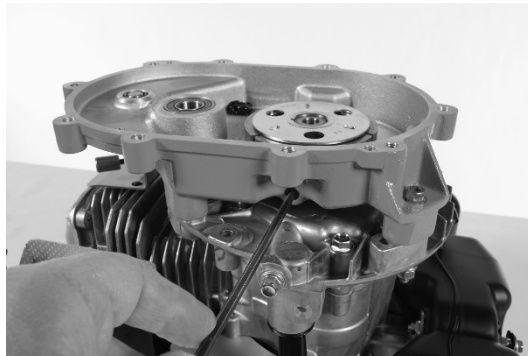

FIGURE 40
10. Apply wicking grade anaerobic adhesive to Allen screw to eliminate movement during Hole Digger operation. Using 3/16 inch (4.7 mm) Allen wrench, re-install access screw in transmission cover side. FIGURE 40